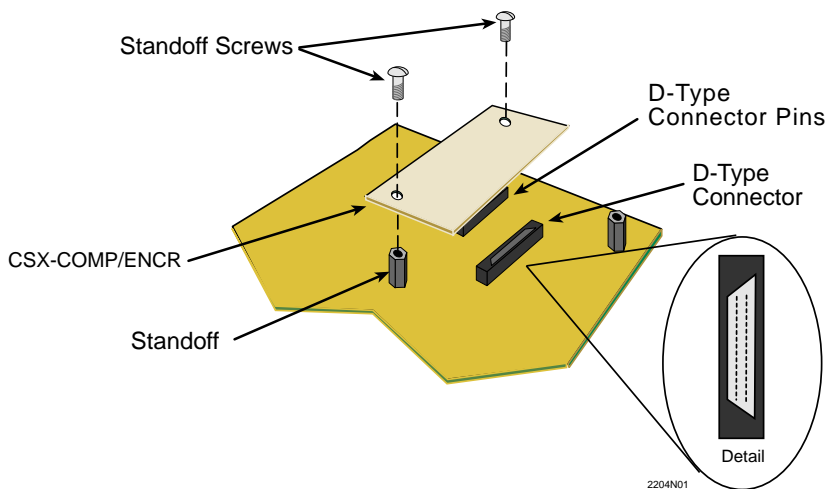

Figure 14 CSX-COMP/ENCR
5. Locate the D-Type connector and the standoffs on the CSX400 (refer to **Figure 14**).